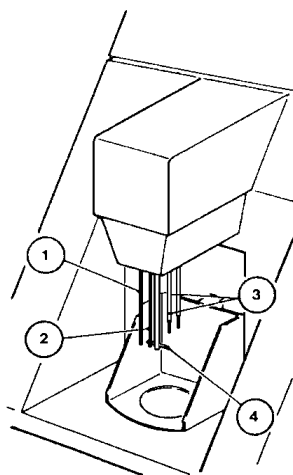

Figure 5.3 Electrodes and Electrode Head.
7. If necessary, adjust the vertical position of the anode, item 1, figure 5.3, so that it is the same length as the other electrodes.